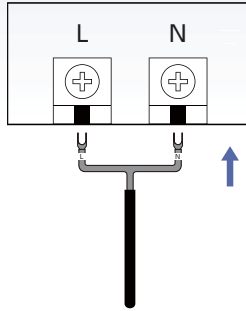

Figure 6.
- 6 • Connect lamp cords to power supply.(Figure 6.)